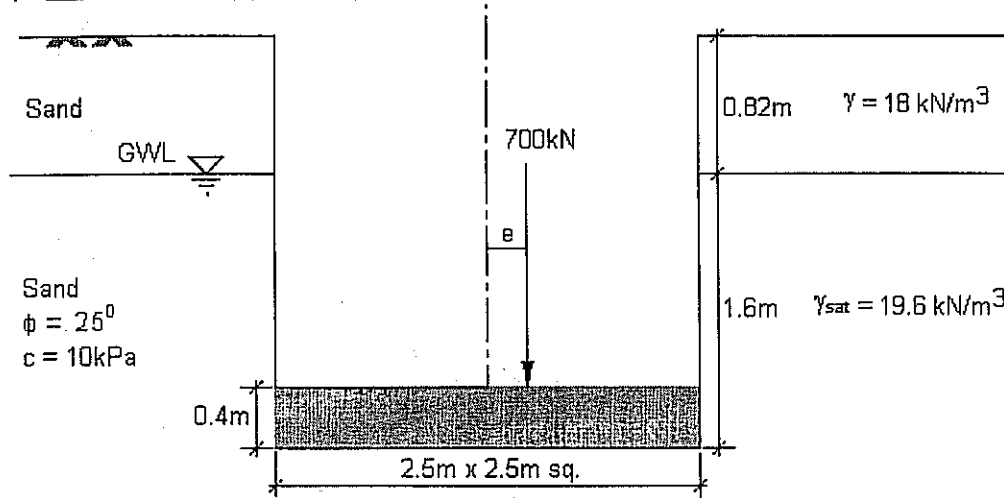

Figure Q6
- Sketch on  $p, p' - q$  space the total stress path and the effective stress path observed for a Normally Consolidated (NC) clay soil, subjected to undrained triaxial loading. (4 points)
6. Figure Q6 shows a pad footing carrying a column load of 700kN. The eccentricity,  $e = 0.23m$ . The load is transferred to the footing via a 300mm x 300mm square column.